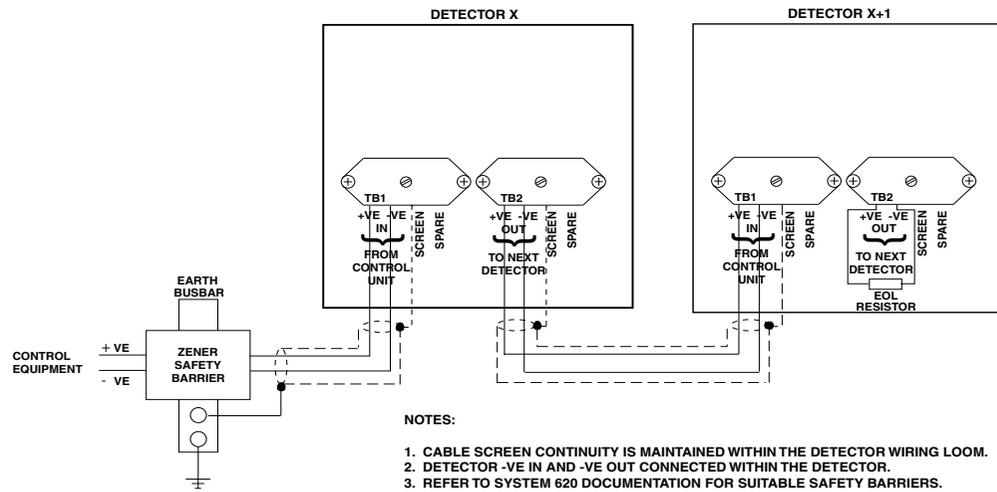

Fig. 5 Detector Wiring - Intrinsically Safe Circuits
- The detector must be positioned such that a clear line of sight is provided to all parts of the risk area within the 90° field of view (see Fig. 5, Publication 01A-04-D4). Roof trusses, pipework, supporting columns etc. in front of the detector can cause significant shadowing and should be avoided.
Wiring from the hazardous area to the safe area passes through the diode safety barrier as shown in Fig. 5.